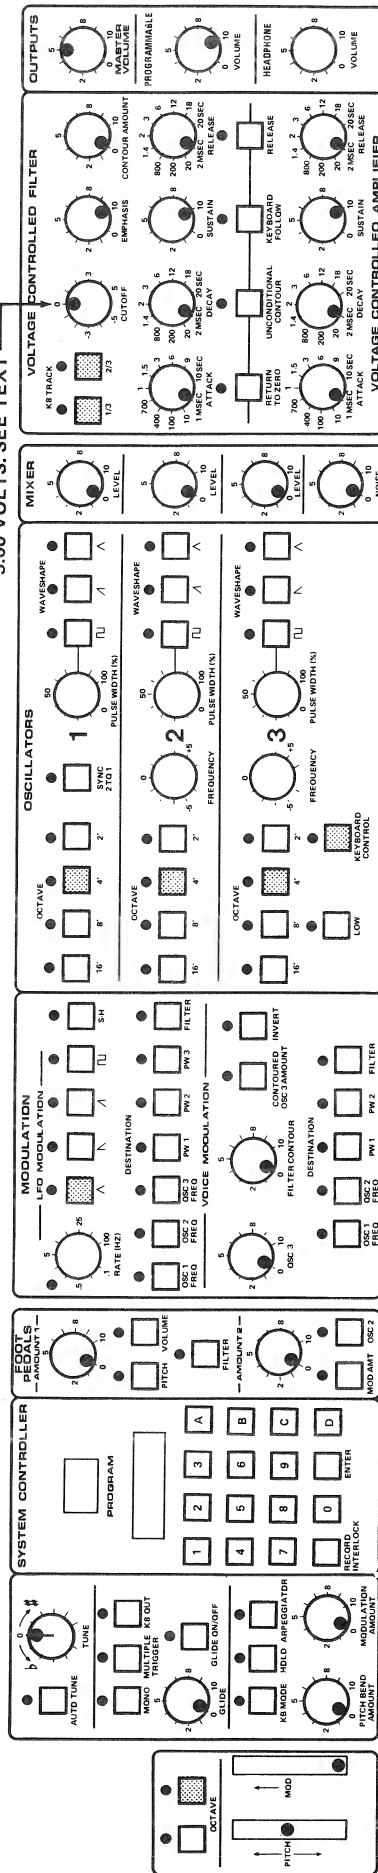

FIGURE 2 FILTER TUNING
1. Set FRONT PANEL controls as in Fig. 2.